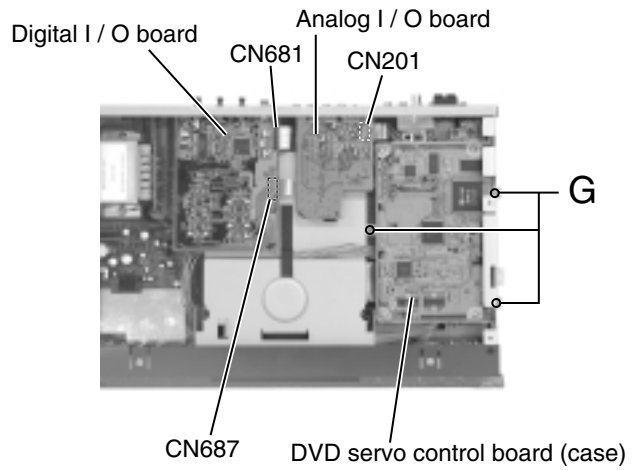

Fig.18
■Removing the analog I / O board / the digital I / O board (See Fig.18 and 19)